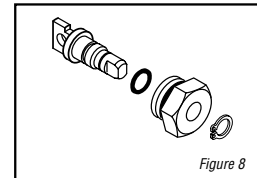

Figure 8
- 7** The internal seal may be replaced by first removing the small retaining ring on the end of the bypass valve. Remove and replace the o-rings (see Figure 8).